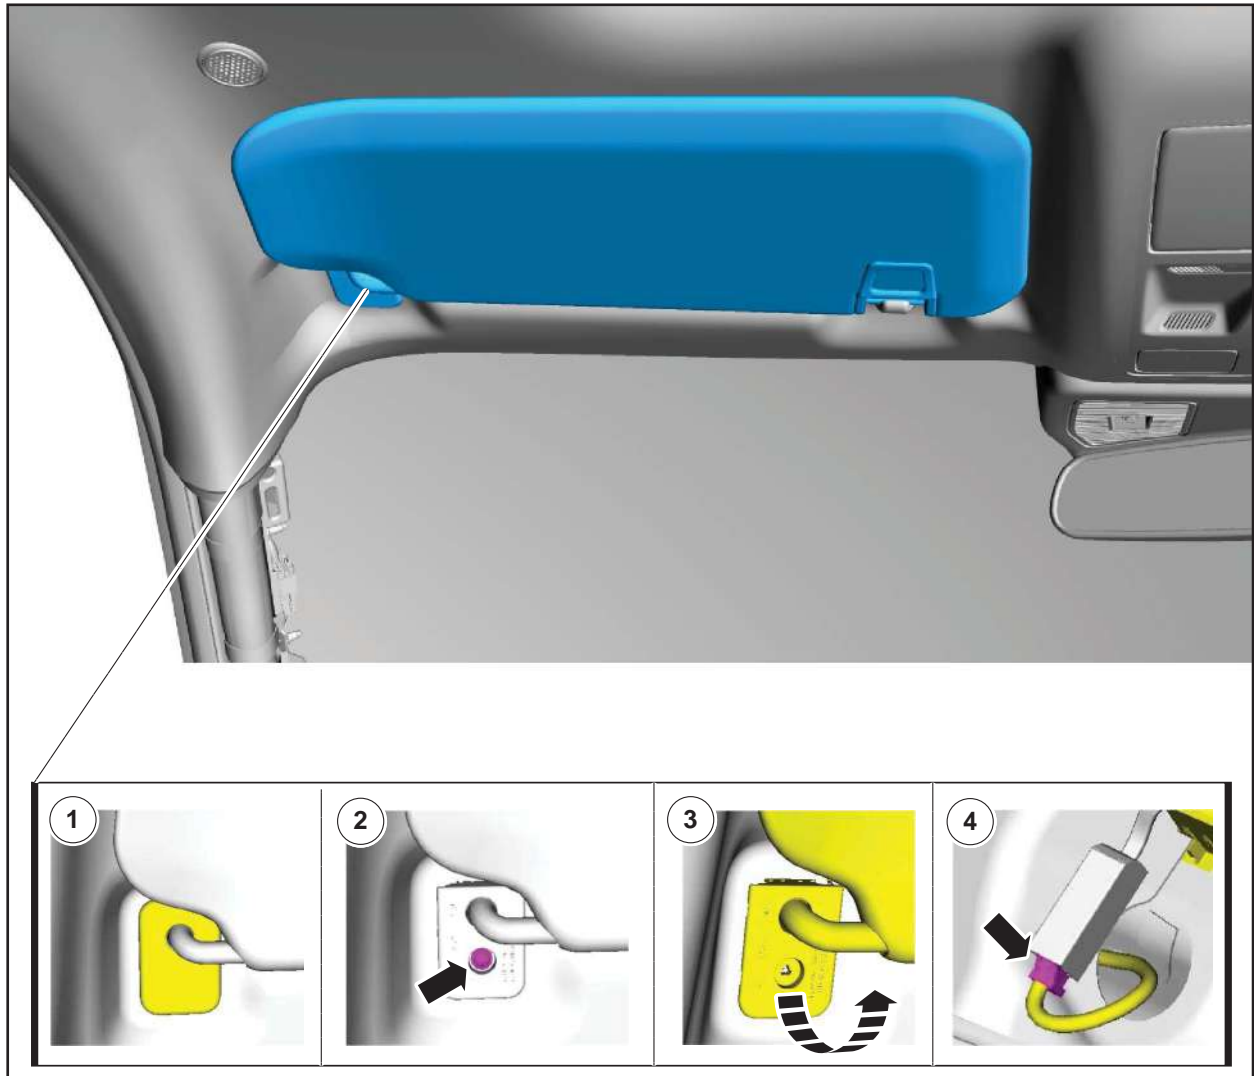

FIGURE 29
29. Remove the LH sun visor. See Figure 29.